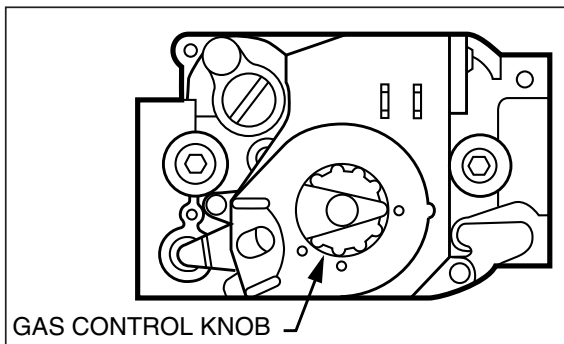

Figure 30. Direct Ignition Gas Valve - Honeywell
- Honeywell - push in the gas control knob and turn clockwise to "OFF." Robertshaw - push the gas control lever to "OFF." NOTE: The lever cannot be placed in the "OFF" position unless it is pushed in slightly. DO NOT FORCE (See Figures 30 & 31).
- Wait ten (10) minutes to clear out any gas. If you smell gas, STOP! and follow step "d" in the SAFETY INFORMATION section. If you do not smell gas, go to the next step.
5. Honeywell - push in the gas control knob and turn clockwise to "OFF." Robertshaw - push the gas control lever to "OFF." NOTE: The lever cannot be placed in the "OFF" position unless it is pushed in slightly. DO NOT FORCE (See Figures 30 & 31).